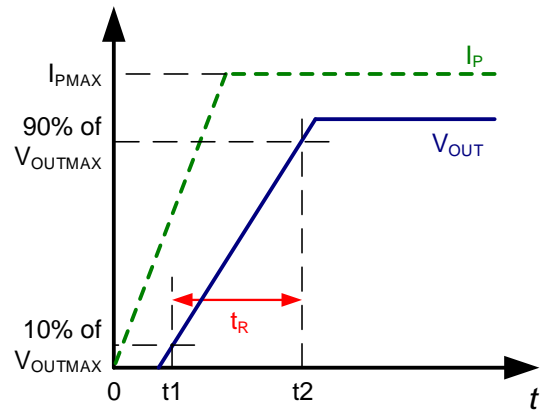

**Figure 6: Propagation Delay ( $t_{PD}$ )**
2.  $t_2$ :  $V_{OUT}$  reaches 20% of its final value, as it corresponds to the applied primary current (see Figure 6).
|            |               | Updated Figure 5, Figure 6, and Figure 7   | 19            |